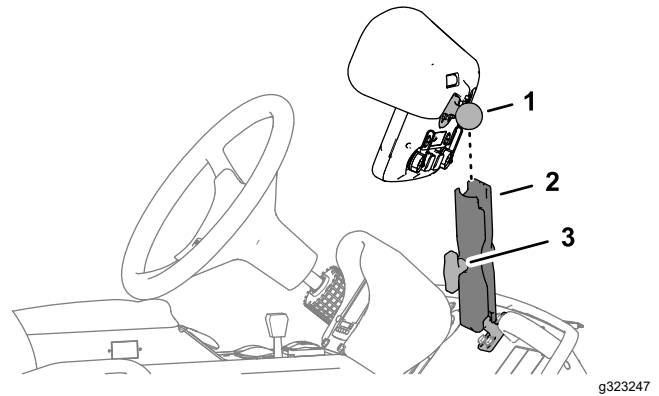

Figure 9
2. Loosen the knob of the display arm (Figure 9).
3. Remove the X30 sprayer display from the monitor arm (Figure 9).